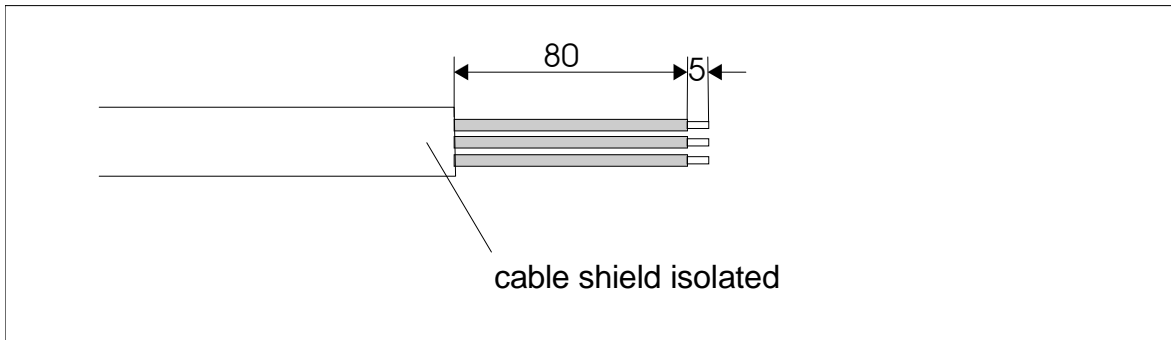

Fig. 3-4 Preparing the cable
1. Insulate the cable as shown in figure 3-4.